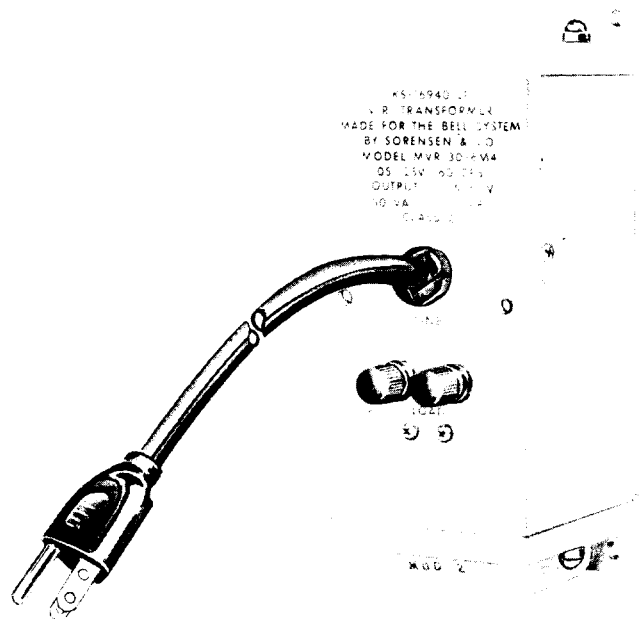

Fig. 9—KS-16940L1 V.R. Transformer
4.01 KS-16940L1 V.R. transformer (Fig. 9) is primarily for use as centralized dial light power source to provide regulated power for dial lights and night lights on telephones. It will power 30 dial light telephone sets.